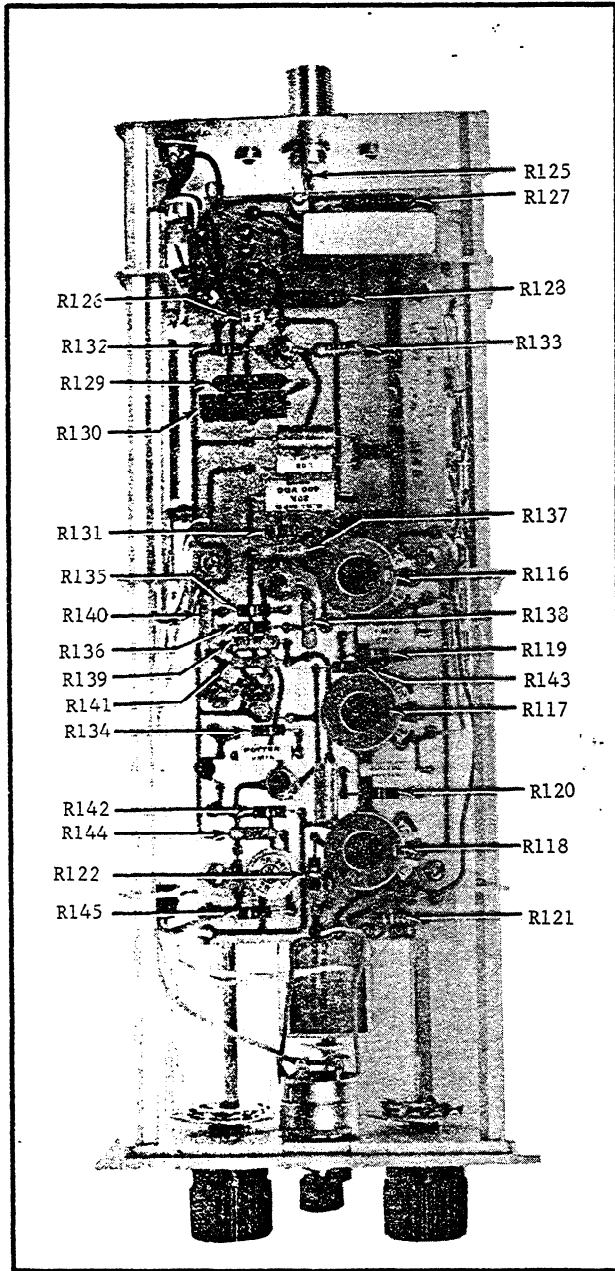
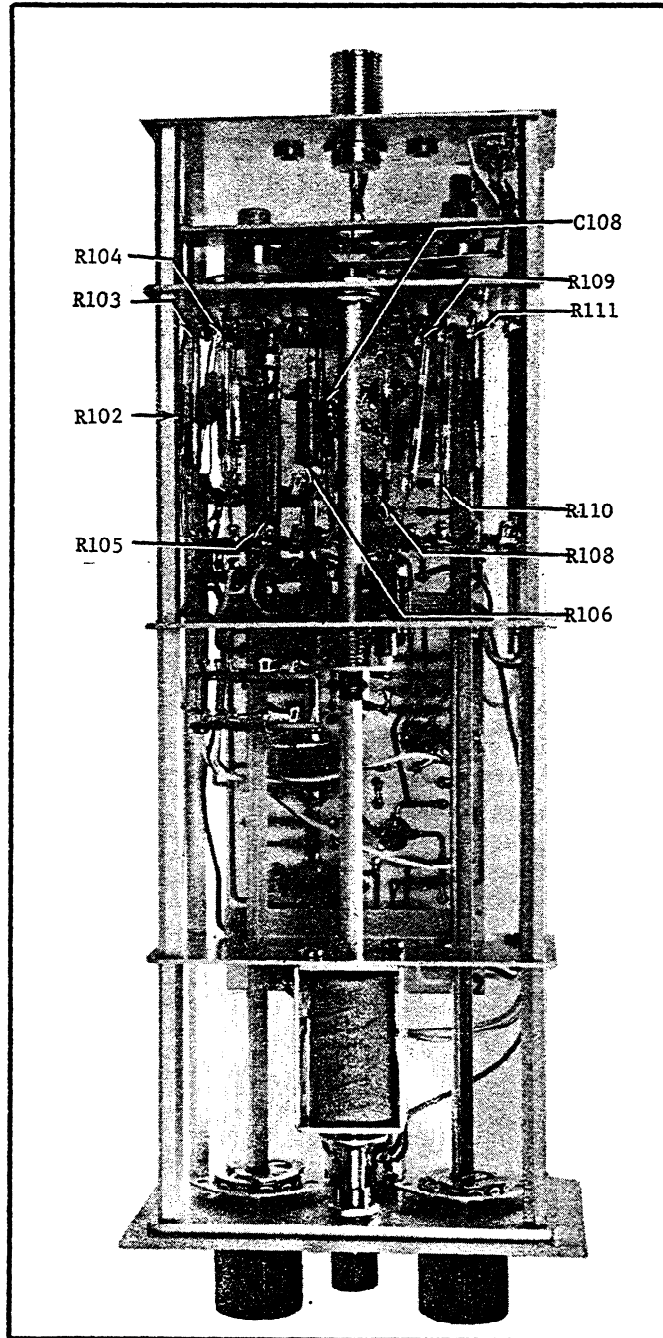

FIGURE 22. Resistors of Model 4170 Input Head.
FIGURE 24. Components on Model 4170 Input Head (Side Opposite PC-66).
3. Adjust potentiometer R118 (Figure 22) for minimum rise time without overshoot. Typical traces are shown in Figure 17. Observe the trace for the 10⁻¹¹ and 10⁻¹² range. Adjust potentiometers R117 and R116, respectively, if necessary. The 10⁻⁹ ampere range is adjusted for optimum rise time by sliding the brass band around the 10⁹ high-megohm resistor, R111 (Figure 24) along the length of the unit.